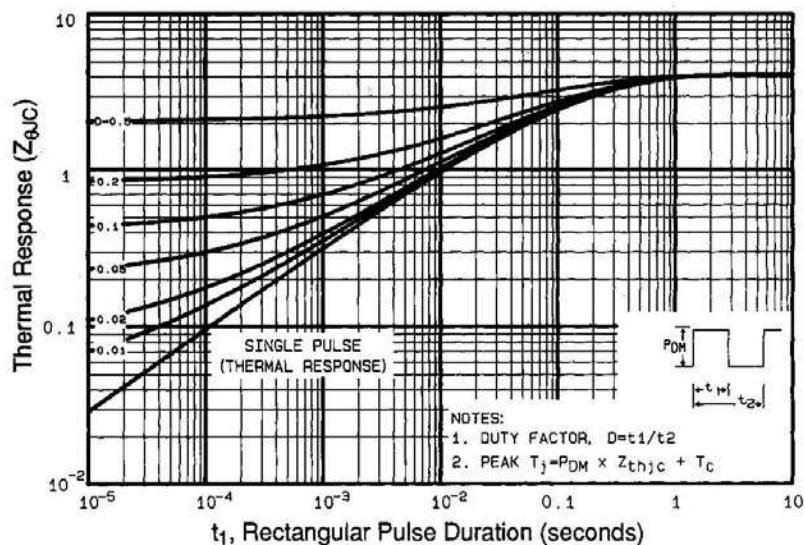

Fig 11. Maximum Effective Transient Thermal Impedance, Junction-to-Case
- ① Repetitive rating; pulse width limited by max. junction temperature (See Figure 11) ③ $I_{SD}\leq 1.8\text{A}$, $di/dt\leq 80\text{A}/\mu\text{s}$, $V_{DD}\leq 600\text{V}$, $T_J\leq 150^\circ\text{C}$ ⑤ $t=60\text{s}$, $f=60\text{Hz}$